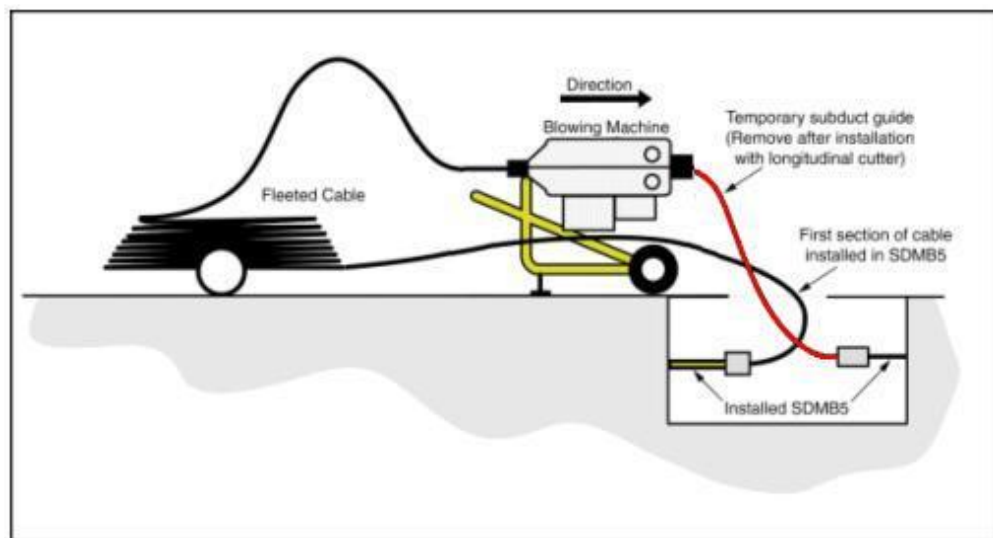
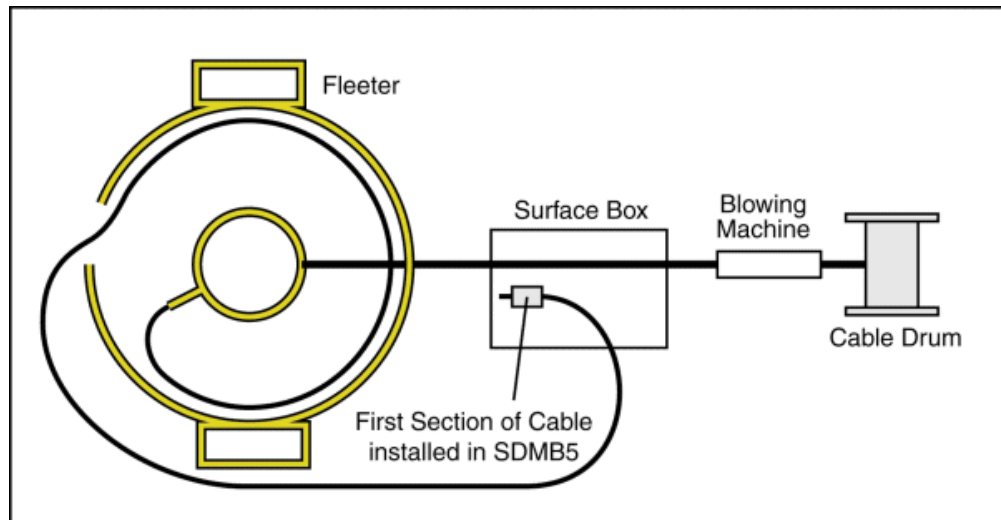

Figure 3 Schematic diagram showing correct position of plant and equipment to load cable into cable fleeter for second section of mid point installation
Figure 4 Schematic diagram showing correct position of cable in fleeting cage
2. Set up and prepare fleeting equipment as Figure 3. Clamp a temporary length of SDMB5 between the fleeter and cable blowing machine. Take a loop of cable and insert into the cut outs in the fleeting cage as shown in Figure 4.